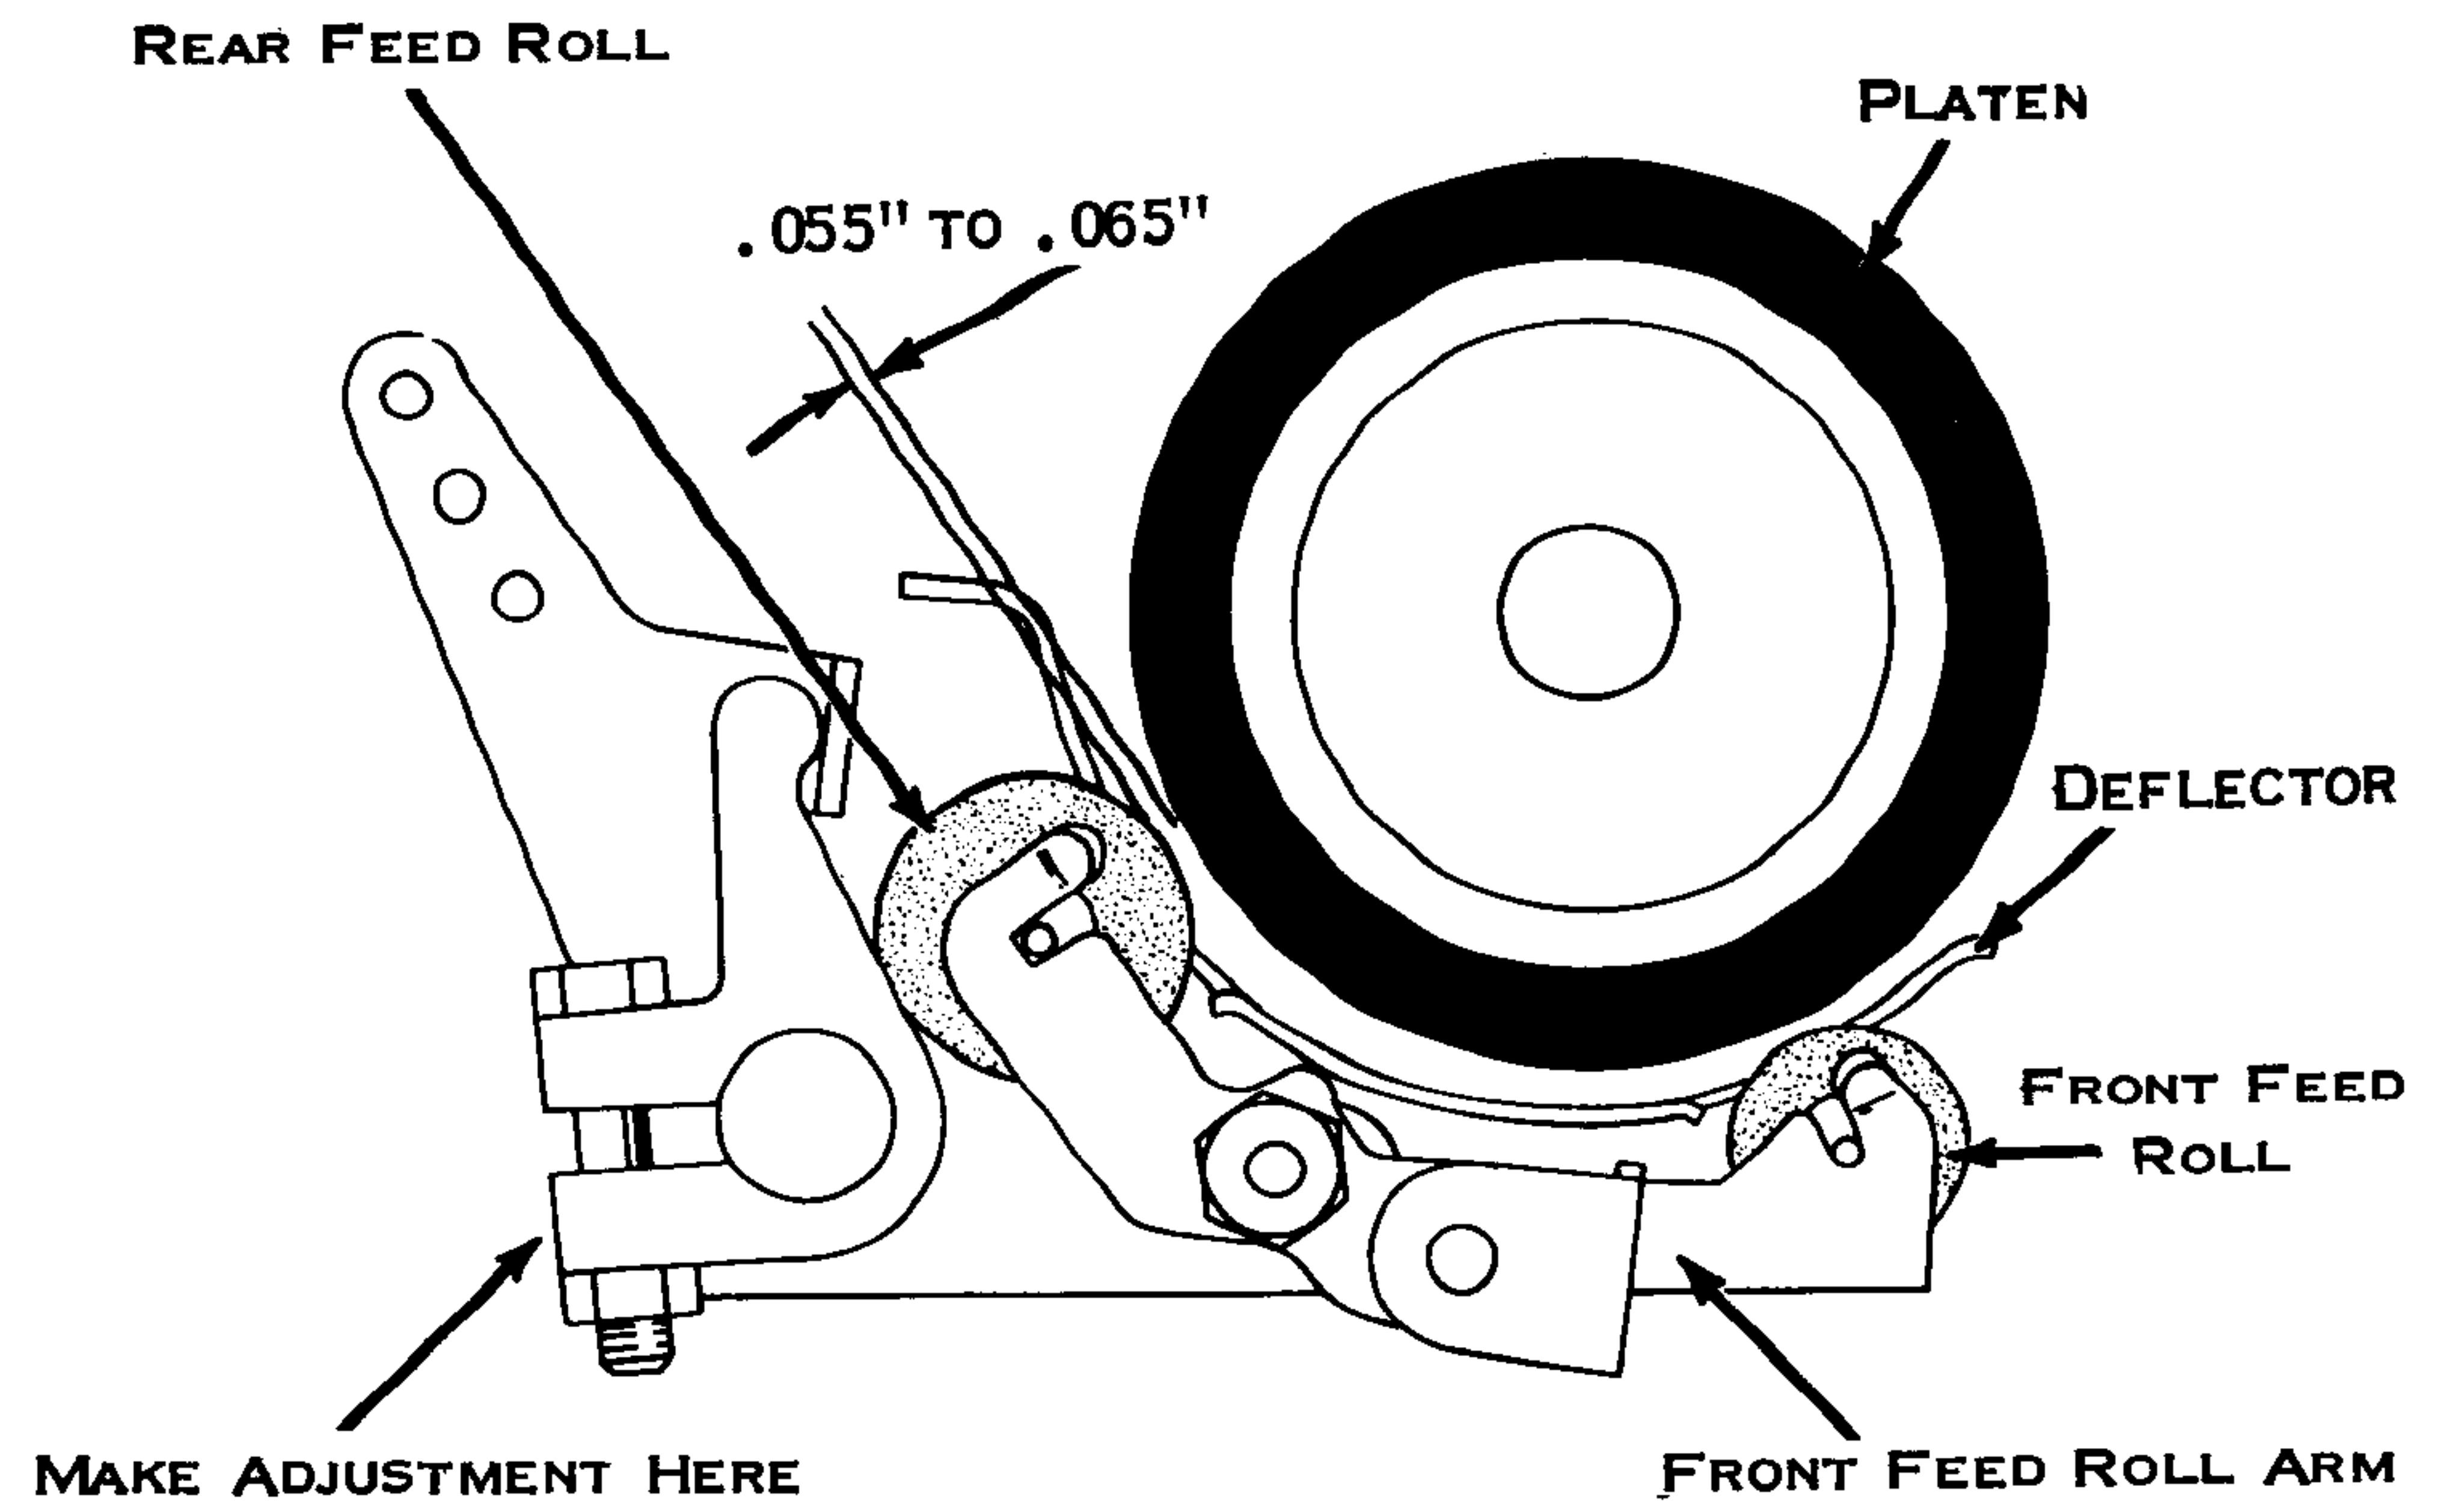

Figure 196. Paper Release
1. Paper Release (Fig. 196) - The feed roll release arm should be adjusted to obtain a release clearance of .055" to .065" between the rear feed rolls and the platen.